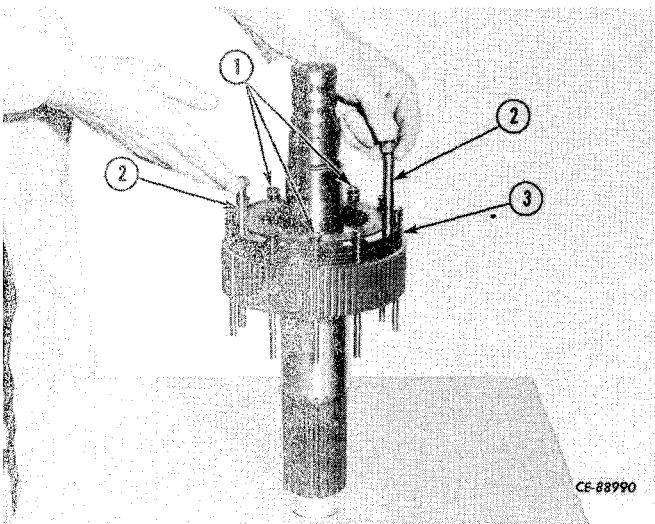

Figure 4-126
Install the return springs (1, Fig. 4-126) on the spring guides. Install the steel and bronze discs. Start and end with a bronze disc. Be certain the proper number of discs are installed in each pack (refer to PARTS CATALOG). Use two studs (2) to properly align the steel discs.